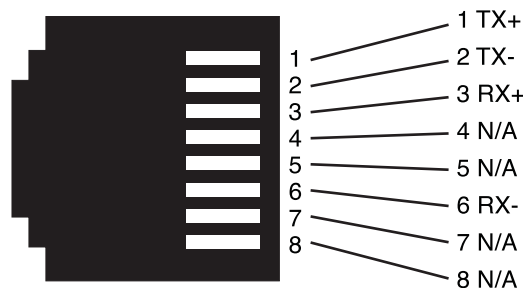

Figure 8. CL1101 10/100Base-T RJ-45 Connector Pin-out
1. The RJ-45 *Ethernet* port is an Auto-MDIX 10/100Base-T that connects to a 10/100Base-T device or network. Figure 8 shows the signal/pin relationships on this interface. You may connect this port to a hub or PC using a straight-through or crossover cable (see Appendix 4 on page 23) that is up to 328 ft long.